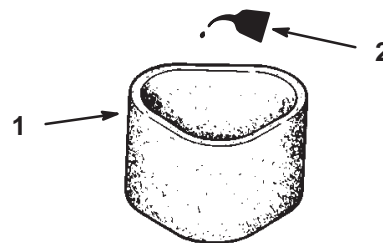

Figure 23
3. Put one or two ounces of oil on the element (Fig. 23). Squeeze the element to distribute the oil.